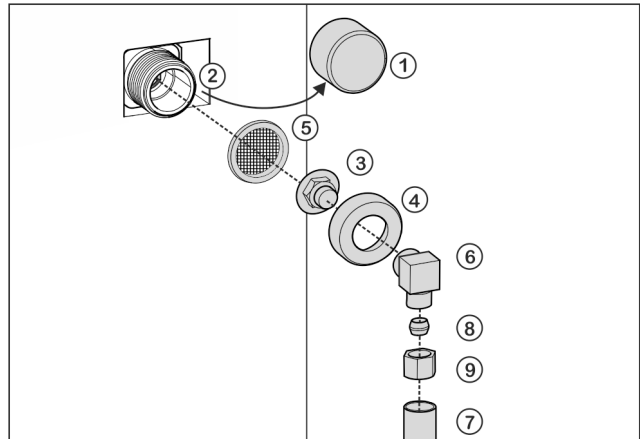

Fig. 21
- ▶ Remove cap Fig. 21 (1) from solenoid valve Fig. 21 (2).
- ▶ Insert coupler Fig. 21 (3) into union nut Fig. 21 (4).
Improper installation of water filter Fig. 21 (5)!
- ▶ Insert water filter Fig. 21 (5) with the recess pointing down towards coupler Fig. 21 (3).
- ▶ Attach union nut Fig. 21 (4) to solenoid valve Fig. 21 (2) and tighten.
- ▶ Screw on angle piece Fig. 21 (6).
- ▶ Connect water pipe Fig. 21 (7) (e.g. copper) to angle piece Fig. 21 (6) using clamp ring Fig. 21 (8) and nut Fig. 21 (9).
- ▶ Attach water pipe Fig. 21 (7) to the housing if possible, using the clip bracket.
- ▶ Put angle piece *Fig. 21 (6)* to one side.
- ▶ Connect water pipe *Fig. 21 (7)* (e.g. copper) to coupler *Fig. 21 (3)* using clamp ring *Fig. 21 (8)* and nut *Fig. 21 (9)*.
- ▶ Attach water pipe *Fig. 21 (7)* to the housing if possible, using the clip bracket.